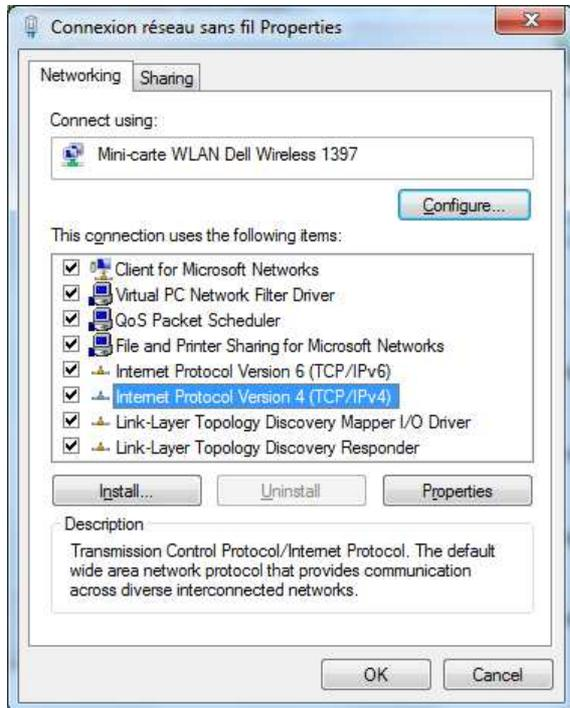

Figure 12: Selecting the Internet Protocol item
6. In the **Connection Properties** window, double-click on the **Internet Protocol Version 4 (TCP/IPv4)** item (see Figure 12).